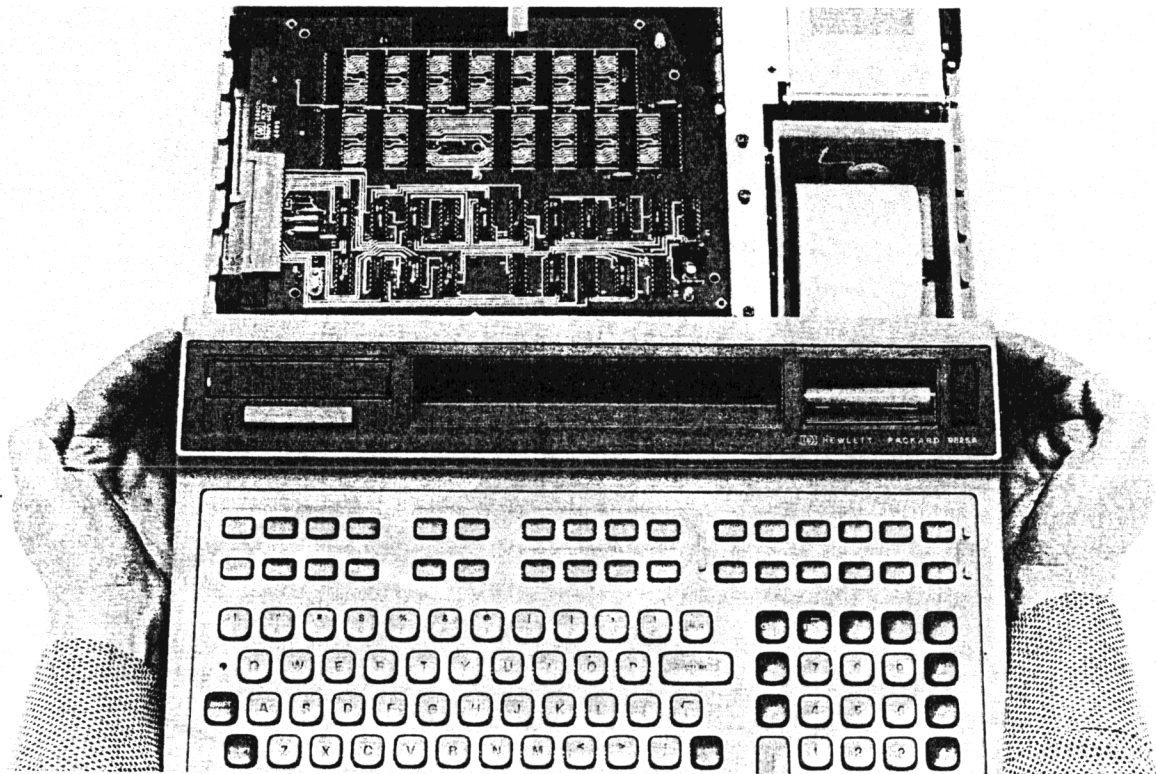

Figure 2-4 Sliding the Bezel Forward
- Slide the bezel forward with respect to the base. Do this by holding the base in position with the heels of your hands (as shown in figure 2-4) and then pushing the bezel forward with your fingers about 1 centimetre until it stops.